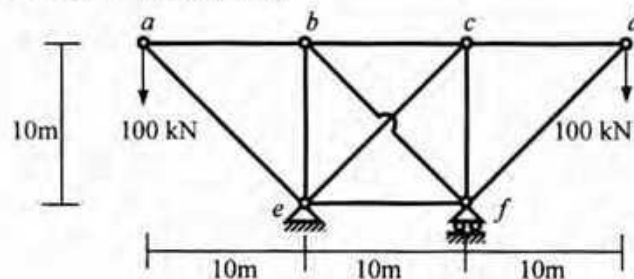

Fig. 4
- Use the Method of Virtual Work to calculate the vertical deflection at joint *a* of the truss loaded as shown in Fig. 4, assuming diagonal members to take equal share of the sectional shear [Given:  $EA/L = \text{constant} = 7500 \text{ kN/m}$ ].